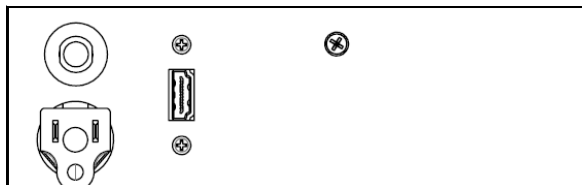

Fig. 3
1. Connect HDMI cable provided between Marina HDMI output port, see Fig. 3, and screen HDMI input port.